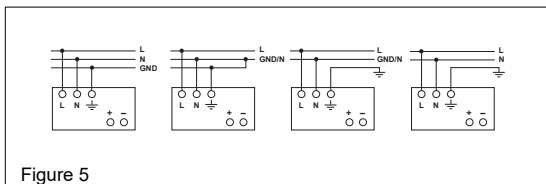

Figure 5
5.1. Input connection (Fig. 1, Fig. 5)
Use L, N and GND connections of input terminal connector (see Fig. 1 (1)) to establish the 100-240 VAC connection. Typical connection methods are shown in Figure 5.